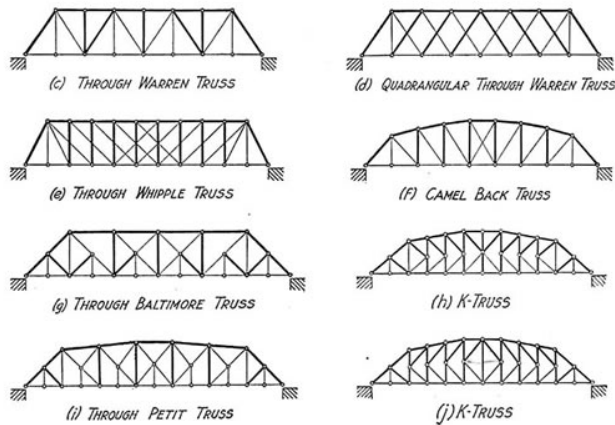

Figure 12. Examples of various bridge truss types.
- Examine Figure 12 below for some examples of truss designs. Feel free to incorporate any combinations of these truss styles and any of your own, as well.